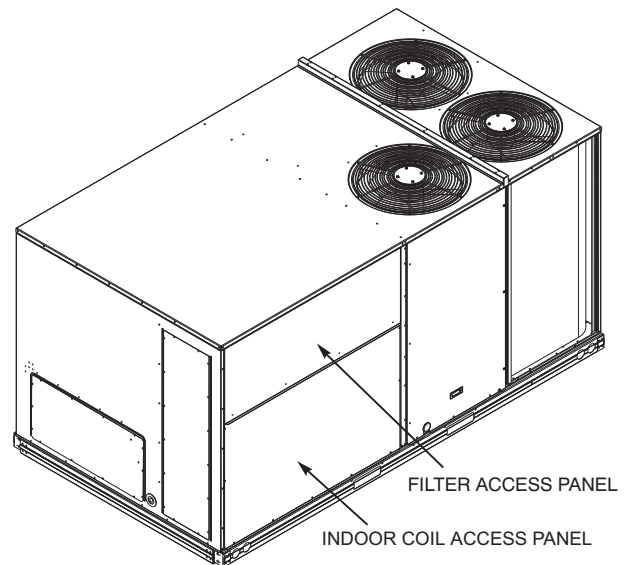

Fig. 10 — Typical Access Panel Locations
2. To gain access to the hood, remove the filter access panel. See Fig. 10.